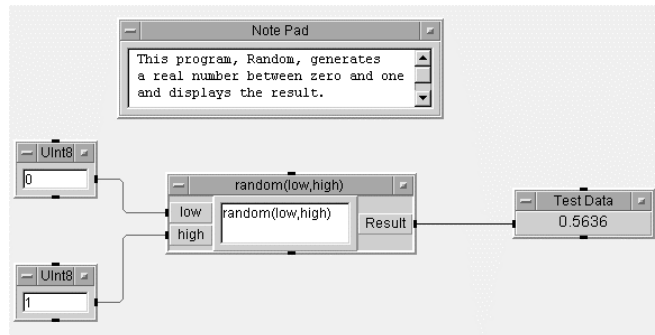

Figure 2.1. The Random program
- Click the Run button on the tool bar. A number will appear in the AlphaNumeric object. See Figure 2.1 below.